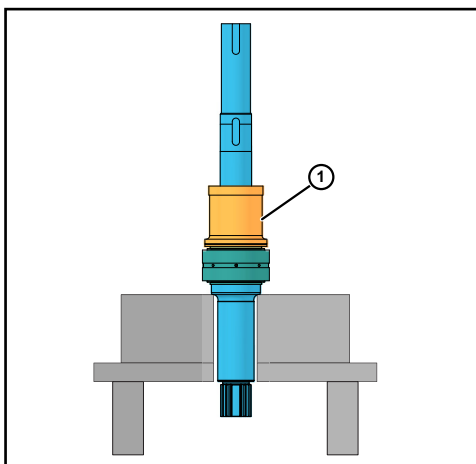

Figure 61 - Install Spacer
4. Place spacer (1) over shaft onto bearing, as shown in Figure 61.